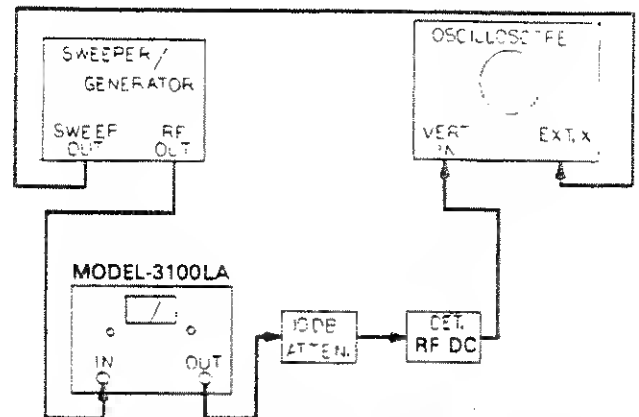

Figure 5-1. Gain and Gain Variation Test Set-Up
- Set up the test equipment as shown in figure 5-1.
- Reconnect Model 3100LA into the test set-up of Figure 5-1.